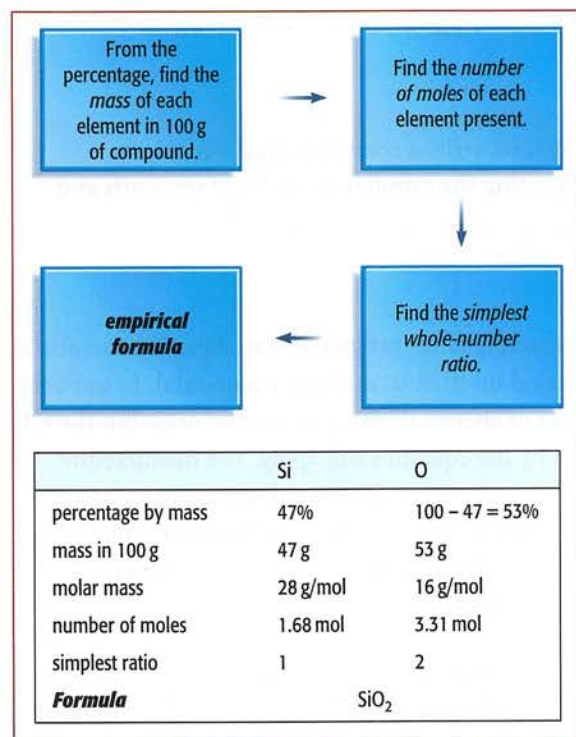

Figure 6.10 Finding the empirical formula of silicon(IV) oxide from percentage mass data.
Silicon(IV) oxide is a **giant molecular structure**. A sample of silicon oxide is found to contain 47% by mass of silicon. How can we find its empirical formula? This is done in Figure 6.10. The empirical formula of silicon(IV) oxide is SiO_2 . It consists of a giant molecular lattice of covalently bonded silicon and oxygen atoms in a ratio 1 : 2. Since it is a giant structure, the formula we use for this compound is SiO_2 .